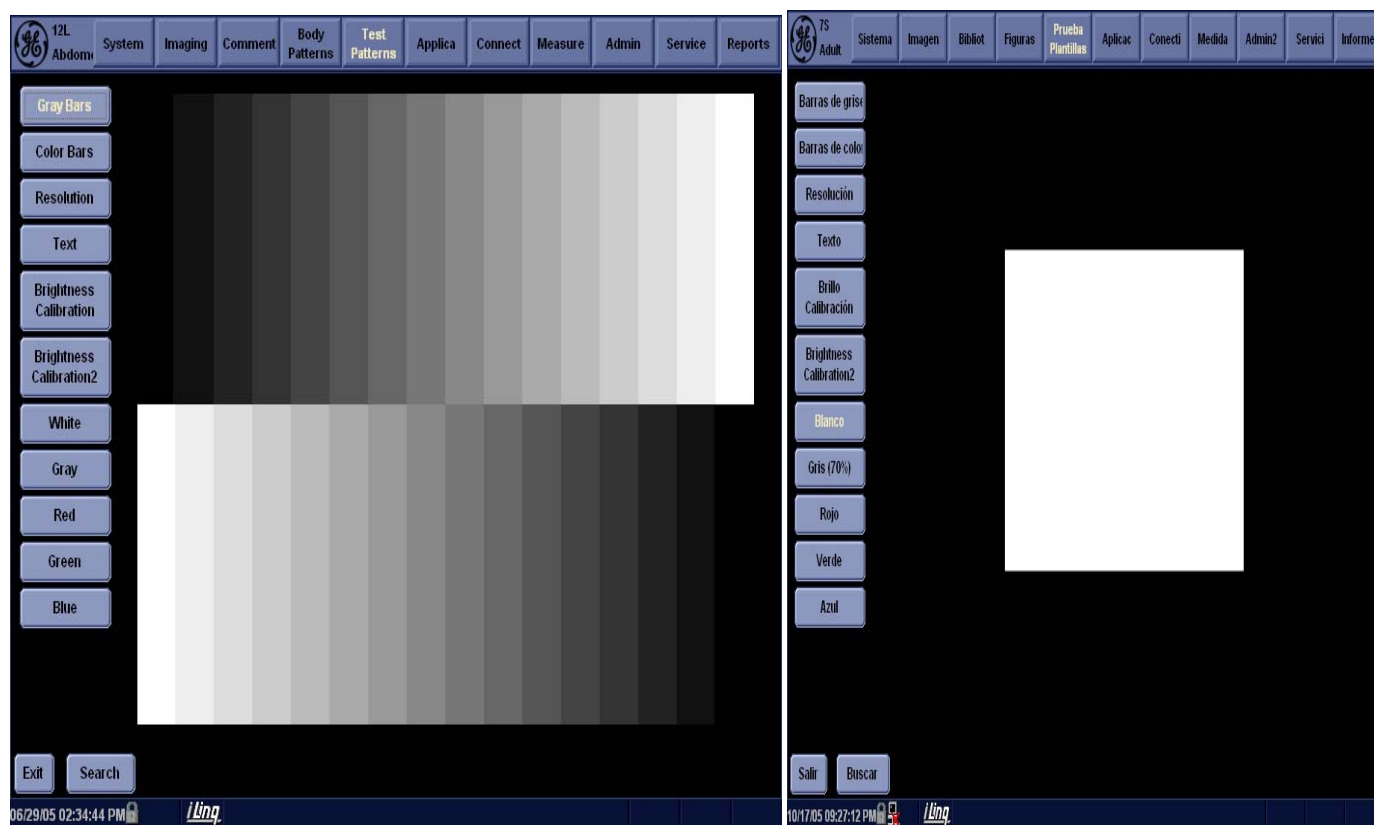

Figure 6-10 Test Pattern Menu
3.) Select the **Test Patterns** Menu as seen shown in the Figure 6-10.
4.) From the Test patterns menu, select the menu **White** as seen in Figure 6-10.